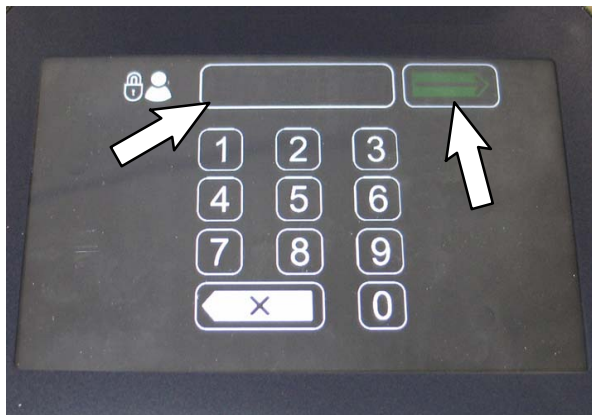

FIG. 21
17. Use the keypad to enter the supervisor mode log in number into the display above the keypad. Press the enter button when finished entering the log in number. (Fig. 21)